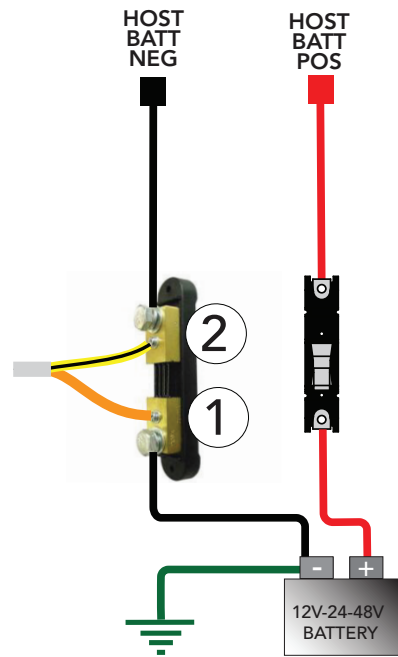

Figure 5-1. Negative Leg Shunt
Step 2. Install the shunt(s) on the circuit(s) to be measured, as seen in Figures 5-1 or 5-2, below. When installing more than one shunt in a system, wire all shunts with the same polarity.
Step 3(A) or (B). Shunt to ReadyShunt Wiring
A. Negative Leg Installation (see Figure 5-1 below).